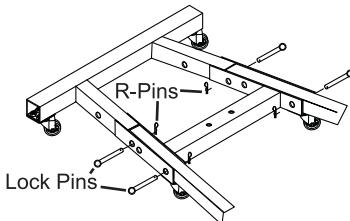

Figure 5
- Lock Legs in place using the Lock Pins (19). To insert the R-Pins (20), lift up on front of Base until holes line up. After all four Lock Pins are inserted, insert one R-Pin through small hole at end of each Lock Pin until it snaps into place. See Figure 5.